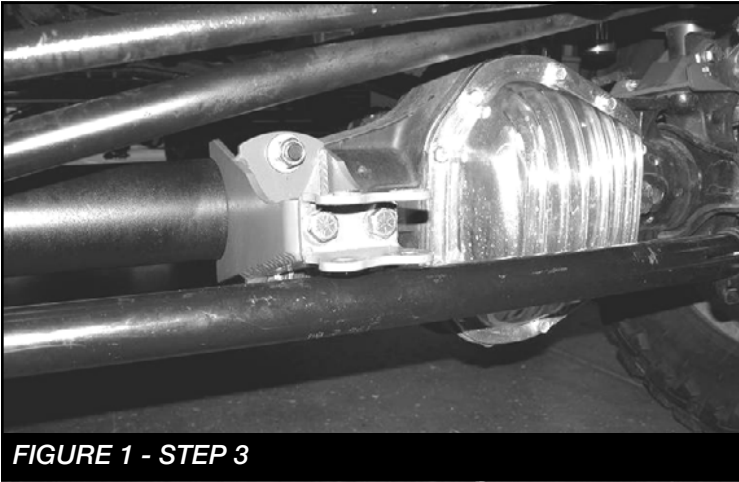

FIGURE 1 - STEP 3
2. Locate FT30730 axle bracket and FT30221 stabilizer bracket. Attach the stabilizer bracket to the two front holes on the axle bracket using the supplied 9/16" x 1 3/4" hardware and torque to 55 ft lbs. **SEE FIGURE 1.**
3. Install the new bracket to the axle. The bracket will need to be positioned so the right side covers the lip on the differential. Use the supplied FT739U U-Bolt and hardware to attach the axle bracket to the axle. Leave loose at this time. **SEE FIGURE 1**